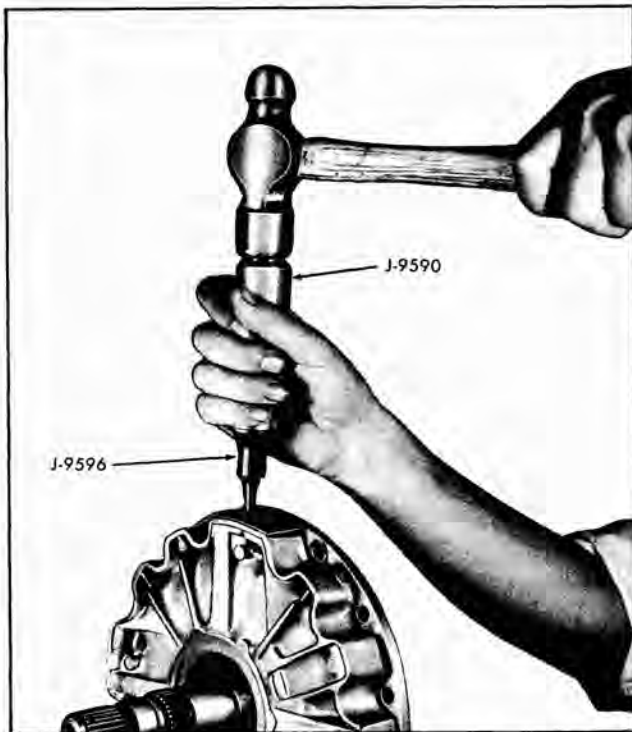

Fig. 79 Removing Exhaust Valve Covers
2. Remove torus exhaust valve cover screw with a clutch head socket. Difficult screws may be removed using J-9590 and J-9596 (Fig. 79).